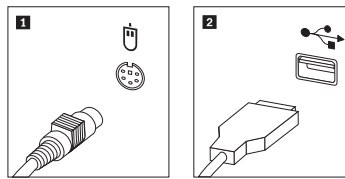

Figure 34. Replacing a mouse
3. Locate the connector for the mouse. See Figure 34 and “Locating controls and connectors on the front of your computer” on page 5 or “Locating connectors on the rear of your computer” on page 6.